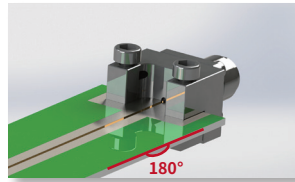

Figure 1: Straight signal path from the back of the connector to the PCB trace.
- Edge Launch Connectors are named for their location on the board, as they are mounted to the edge of the PCB. As shown in Figure 1, the transmission line of an Edge Launch Connector is colinear to the axis of the PCB trace.